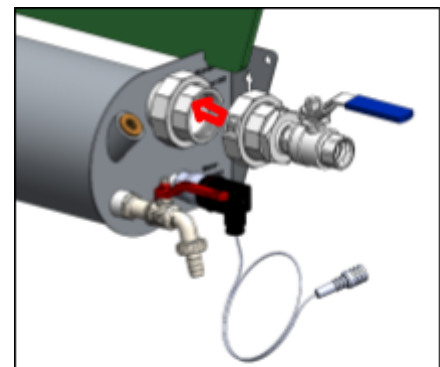

Figure 10.
- o Position the ball valve so that the handle, when open, points away from the mixing tank. See Figure 10.